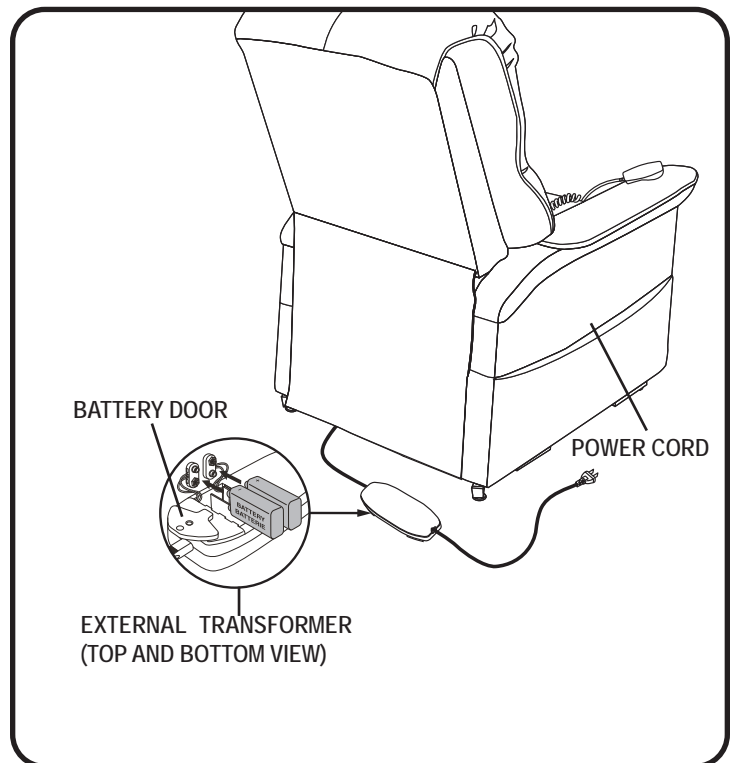

Figure 4.4 Chair Battery Back-up Location
3. Install two 9V batteries in the external transformer (**fig. 4.4**).
*NOTE: Always make sure the external transformer is equipped with two fresh 9V batteries, since the battery back-up system does not recharge itself. Fresh **batteries are defined as 9V alkaline batteries** that are replaced every time the battery back-up system is activated during a power failure, or once every six (6) months if the battery back-up system has not been activated. For best performance, heavy duty or industrial strength alkaline or non-rechargeable lithium-ion 9V batteries should be used. Ensure that the marked battery door is replaced after installing new batteries. Failure to replace 9V batteries as recommended may result in your chair not operating in the event of a power failure.*